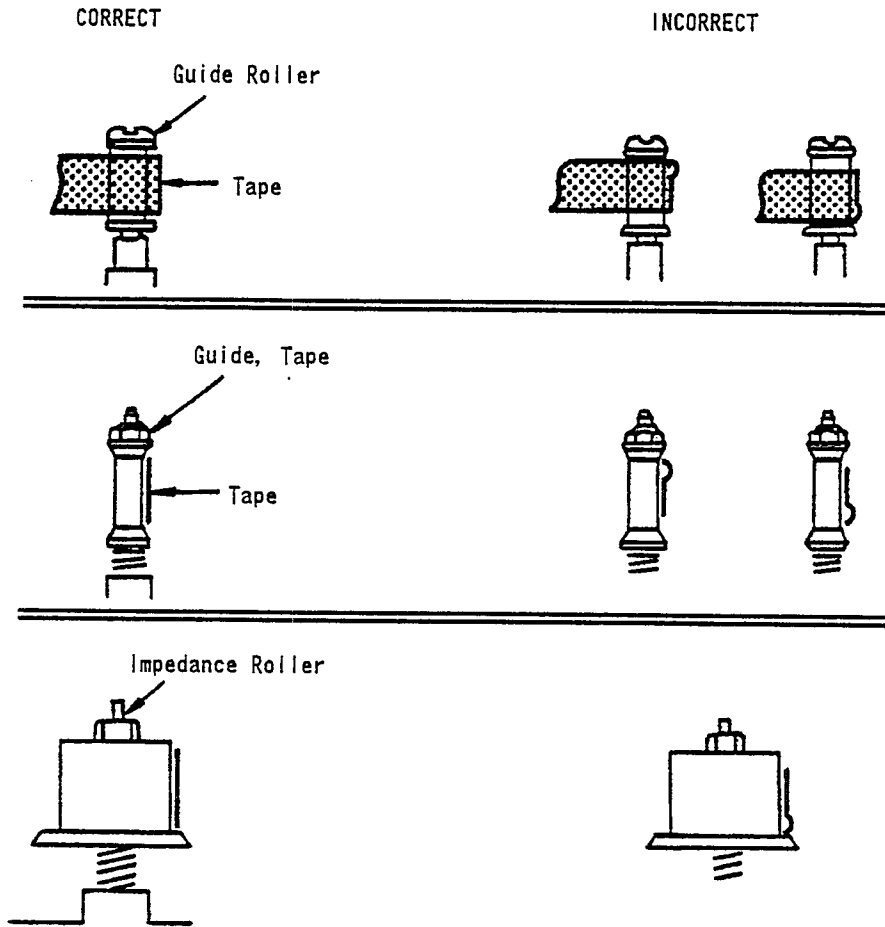
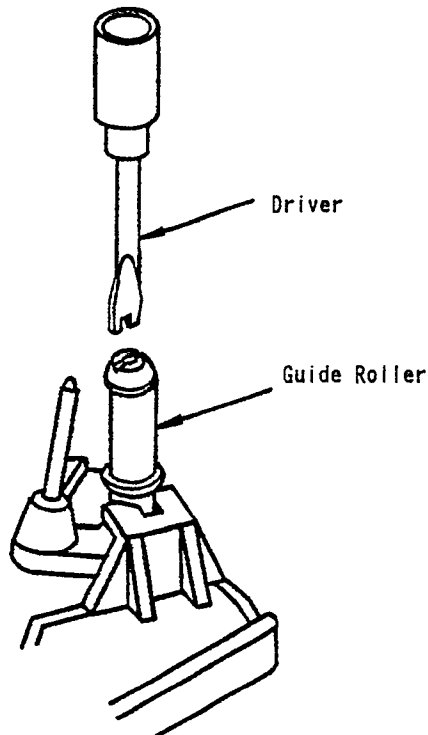

Fig. 5-3
Fig. 5-5
5. During loading, play and unloading, observe the tape at the supply and take-up guide rollers, tape guide and impedance roller. Confirm that there is no curling or creasing etc., as shown in Fig. 5-3.
7. Next, adjust the guide roller height. Insert the adjustment driver into the guide roller top. (Refer to Fig. 5-5). Adjust the height by turning the driver slightly so that the tape runs on the guide roller as shown in Fig. 5-3, and the lower edge of the tape runs along the lead surface of the cylinder.